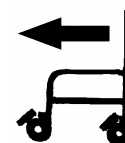

fig. 1
- ☛ **WARNING!** – Brakes should always be applied with the castors facing forward (fig. 1) when entering or leaving the chair. With the brakes applied the commode may still slide on a smooth floor or if it is tipped forward by the user. Supervision is essential while getting on or off the commode.